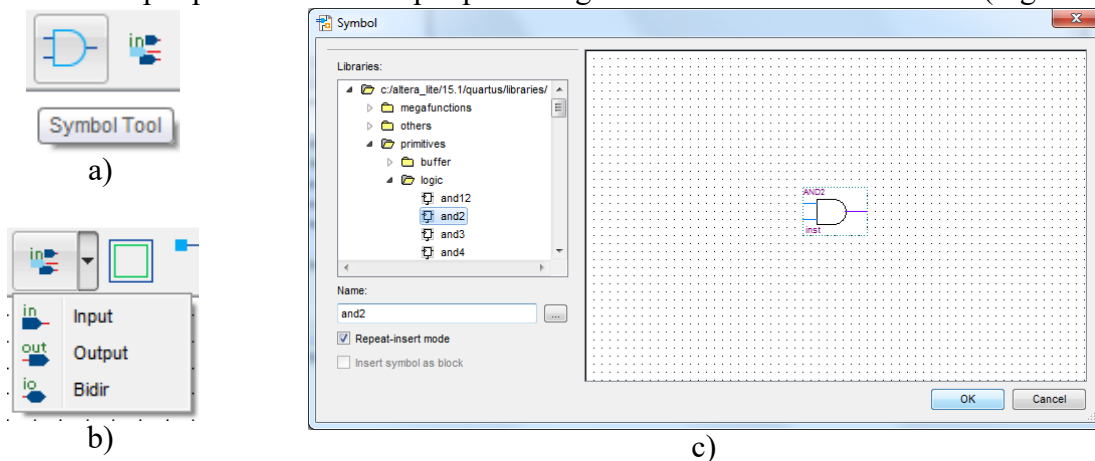

Figure 12 - “Tool Tool” and “Pin Tool” toolbar buttons and AND logic port selection in the Quartus Prime component library.
4. Add a 2-input AND logic gate using the “Symbol Tool” toolbar button (Figure 12 a)) and choosing the component according to Figure 12 c).
5. Add two input ports and one output port using the “Pin Tool” toolbar button (Figure 12 b)).